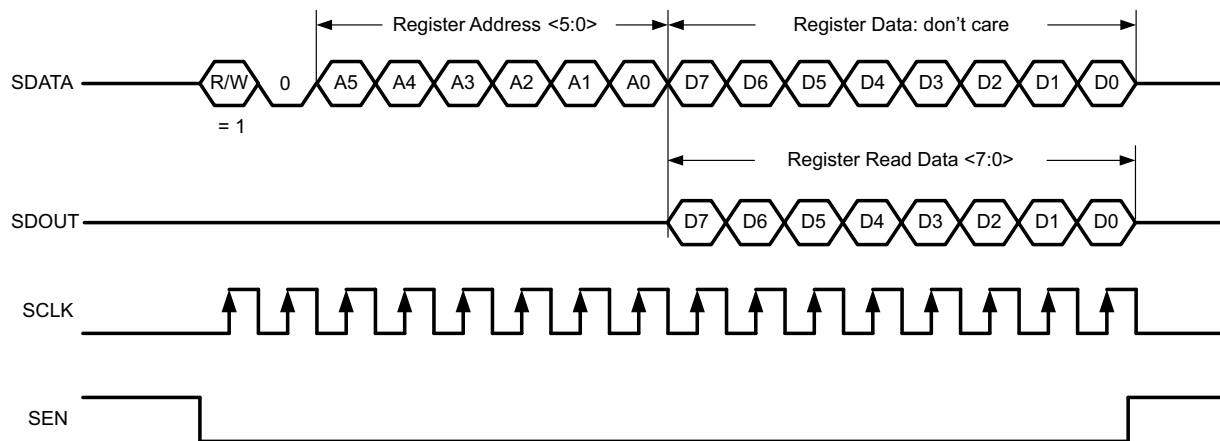
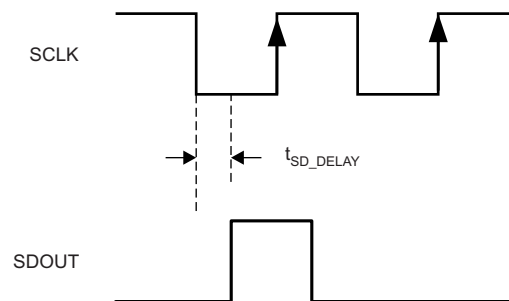

Figure 51. Serial Register Readout Timing Diagram
Figure 52. SDOUT Timing Diagram
2. Write the register address on bits A5 through A0 whose contents must be read. See Figure 51.
When serial registers are enabled for writing (when bit A7 of the 8-bit address bus is '0'), the SDOUT pin is in a high-impedance mode. If serial readout is not used, the SDOUT pin must float. Figure 51 shows a timing diagram of this readout mode. SDOUT comes out at the SCLK falling edge with an approximate delay ( $t_{SD\_DELAY}$ ) of 20 ns, as shown in Figure 52.